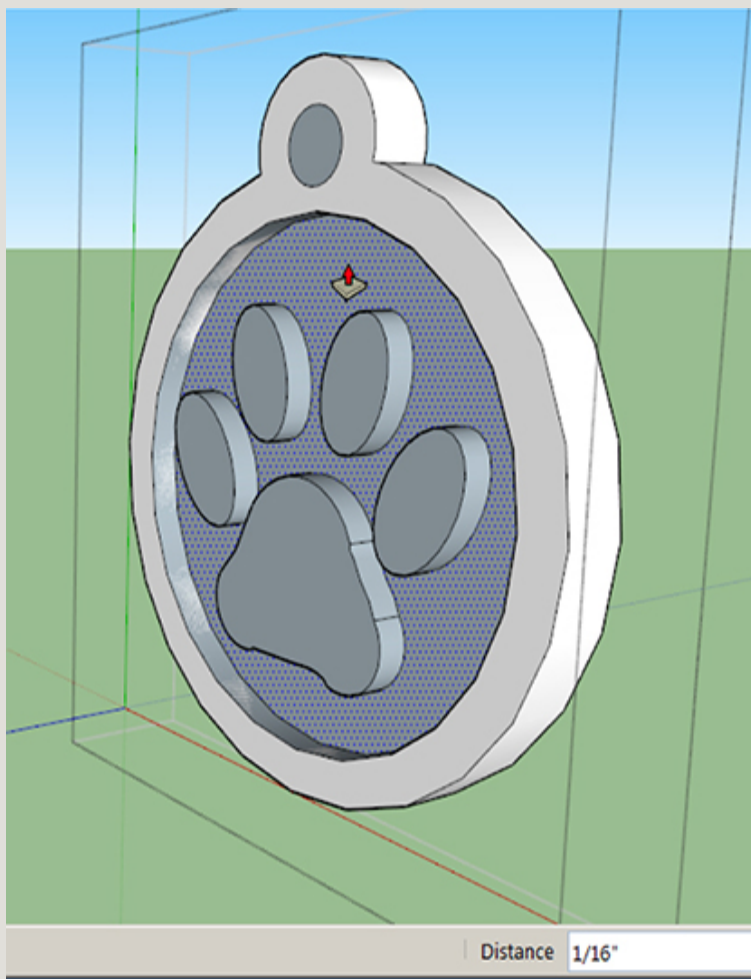

Figure 3-68 Push/pull the perimeter 1/8" thick and the face 1/16" thick.
9. Add thickness (Figure 3-68). Double-click on the tag to open its group editing box. Then use Push/Pull to make the perimeter 1/8"